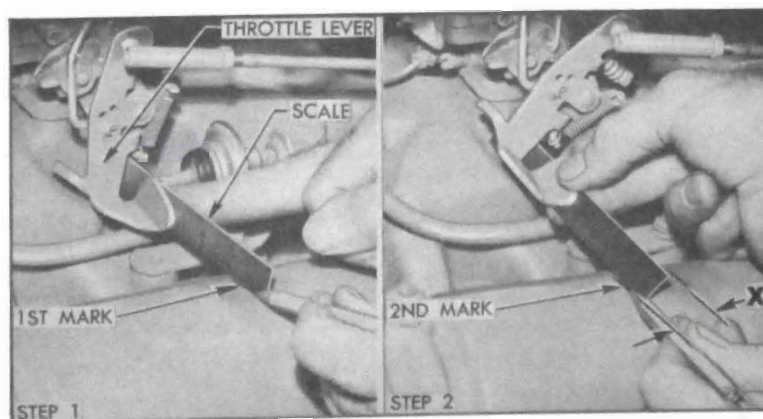

Figure 10-27—Checking Vacuum Switch Timing On Car
so that scale rests on rocker arm cover. *With throttle valve fully closed*, make a pencil mark on cover at front edge of scale. See figure 10-27, step 1.
4. With ignition switch turned on, slowly open throttle while holding scale in position against throttle lever. At point where the cranking motor is energized hold the throttle lever and make a second mark on rocker arm cover at front edge of scale. See figure 10-27, step 2.
5. If vacuum switch is correctly timed, the distance (X) between pencil marks on rocker arm cover will be $\frac{29}{32}$ " to $1\frac{7}{16}$ " with a 2-barrel carburetor, or $\frac{9}{16}$ " to $1\frac{5}{16}$ " with a 4-barrel carburetor.